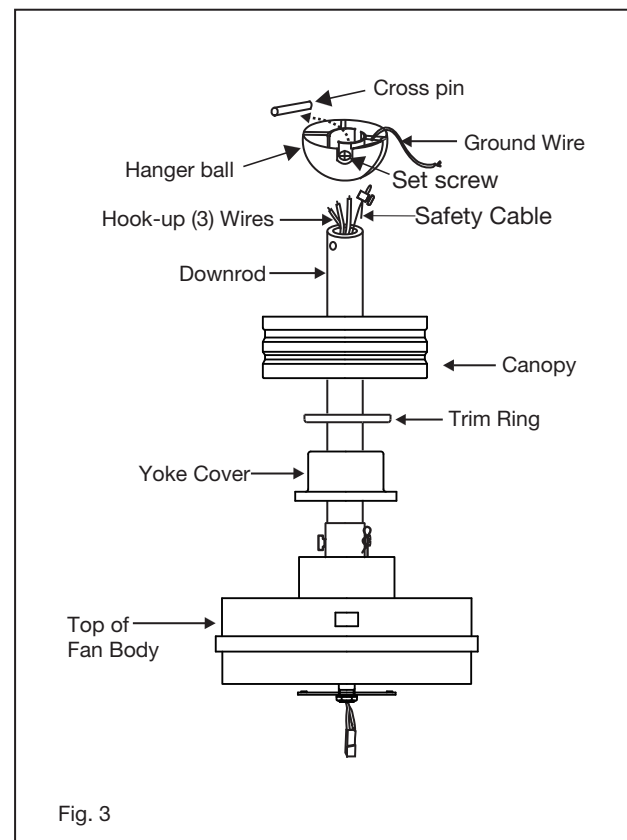

Fig. 3
- 1 Slip the yoke cover, trim ring and canopy onto the downrod. (Fig. 3)
- 1 Remove the existing wall plate and old switch from the wall outlet box. (Fig. 3)